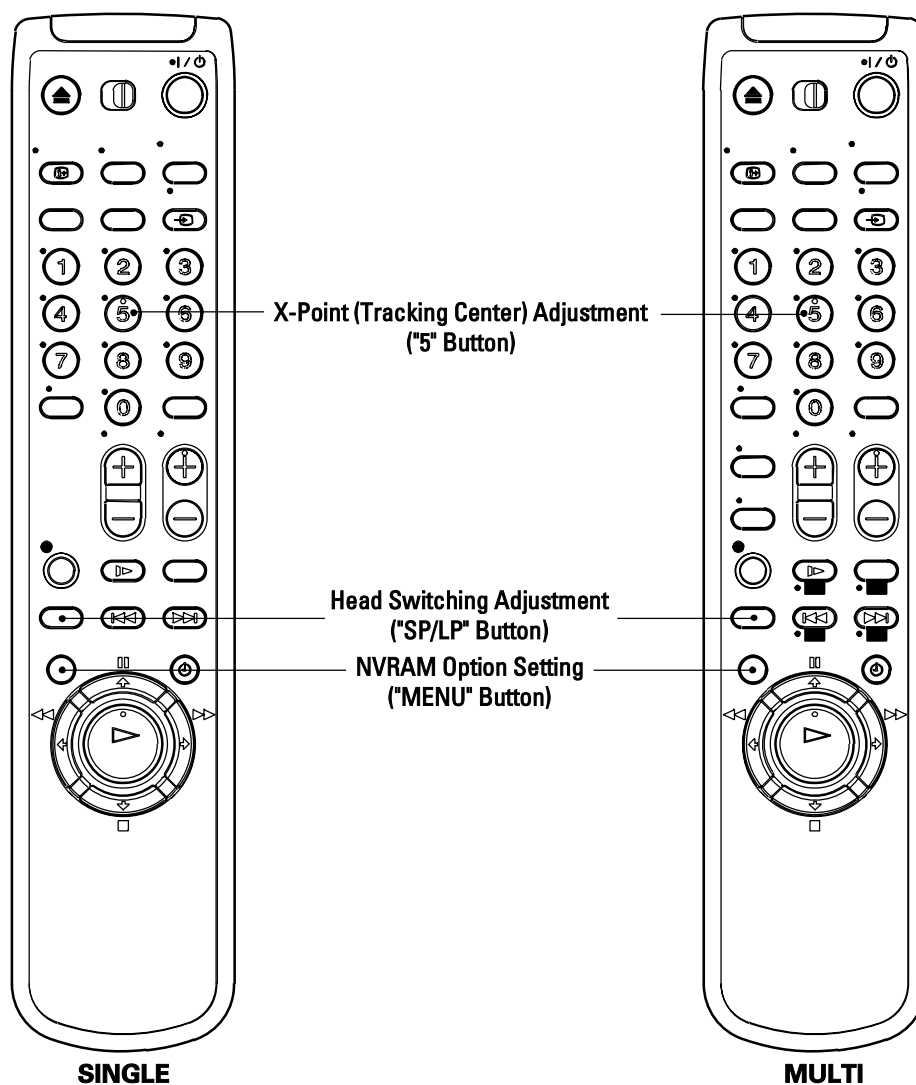

Fig. 5-1
- 3) Press the "5" button of remote control then adjustment is operated automatically. (See Fig. 5-1)
- 3) Press the "SP/LP" button of remote control then adjustment is operated automatically. (See Fig. 5-1)